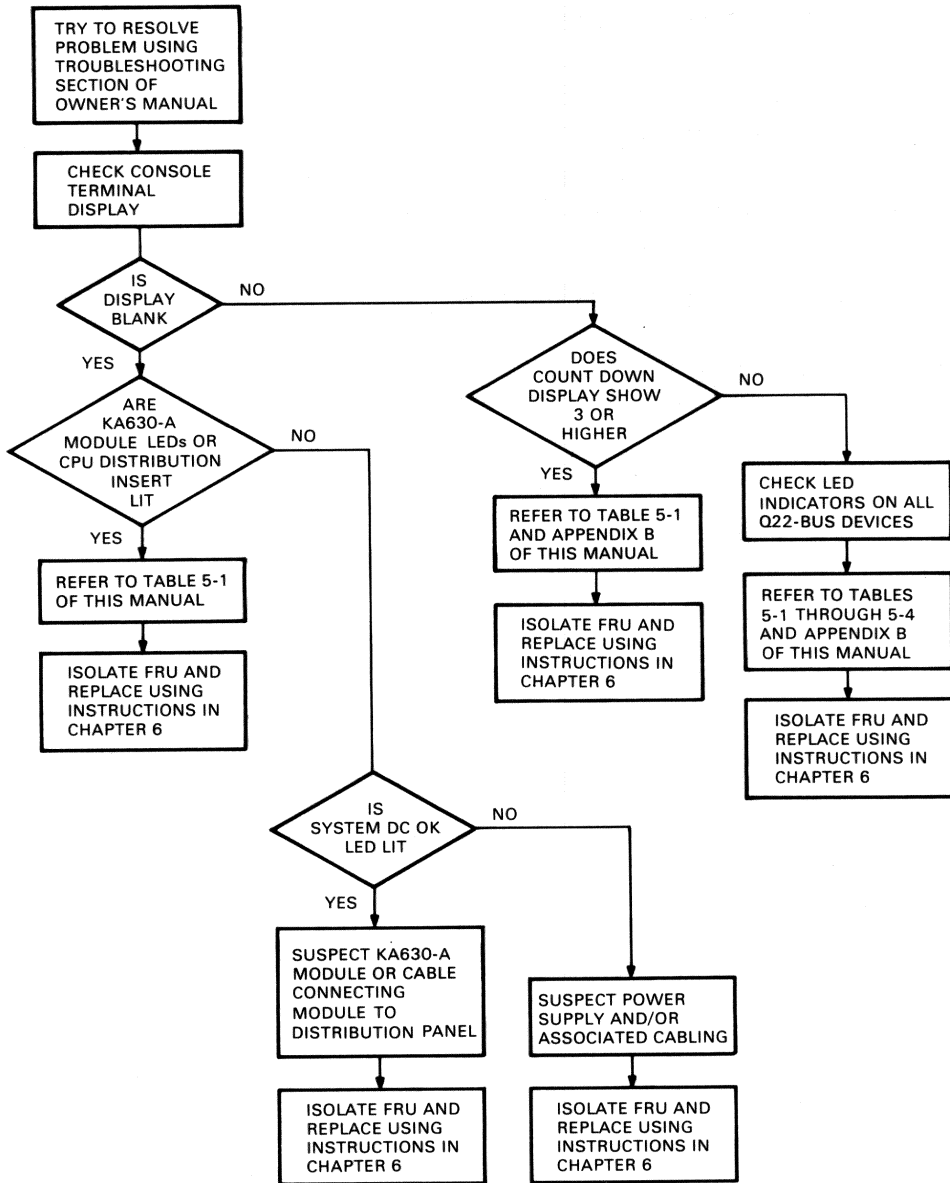

Figure 5-6 Boot Failure Troubleshooting Flowchart
3. If the segmented LED is blank, check the front panel indications, and continue as shown in Figure 5-6.
Figure 5-6 shows the general procedure for troubleshooting the system when either the operating system or the MMS fails to boot.